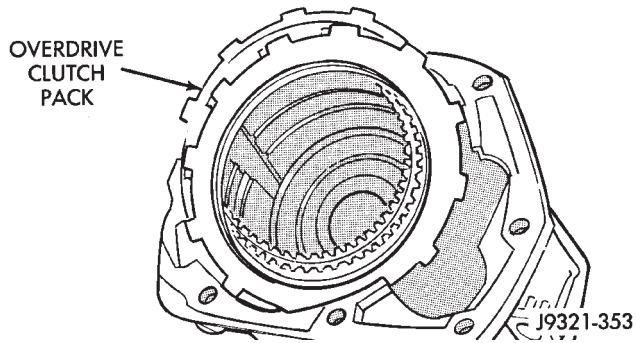

Fig. 198 Overdrive Clutch Pack Removal
- (2) Remove overdrive clutch pack (Fig. 198).